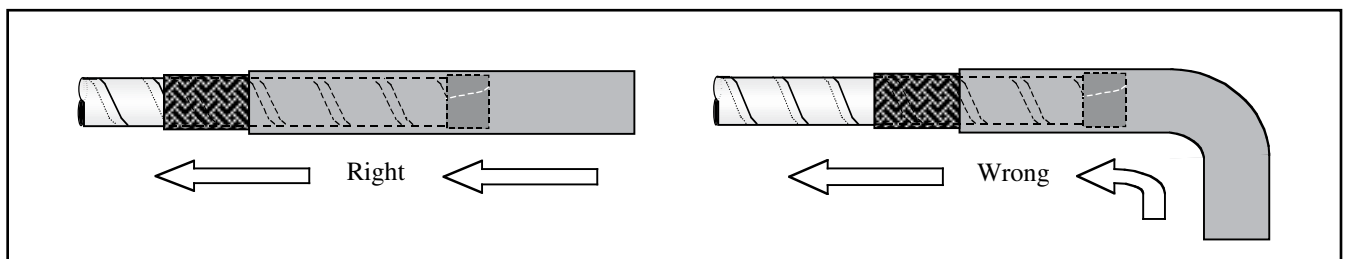

Figure 16
4.5 Guide one re-jacketing sleeve assembly over each cable phase leg (Figure 16). Push sleeve assembly from above. Continuously guide the free end-maintaining sleeve-to-cable-core alignment.